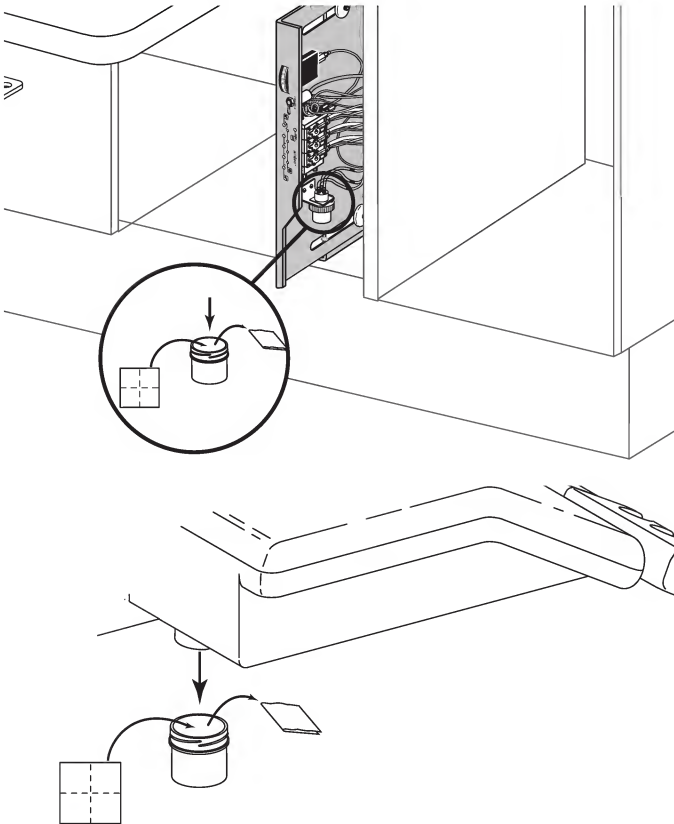

Figure 14. Oil Collector
1. Remove the oil collector jar from the unit and discard the old gauze (see Figure 14).